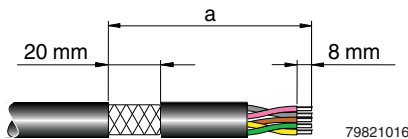

Figure 6-5 Connecting the shielded cable
- Strip approximately 20 mm off the outer sheath of the cable at the required distance from the end of the cable (a in Figure 6-5). The necessary distance a depends on the distance to the busbar.